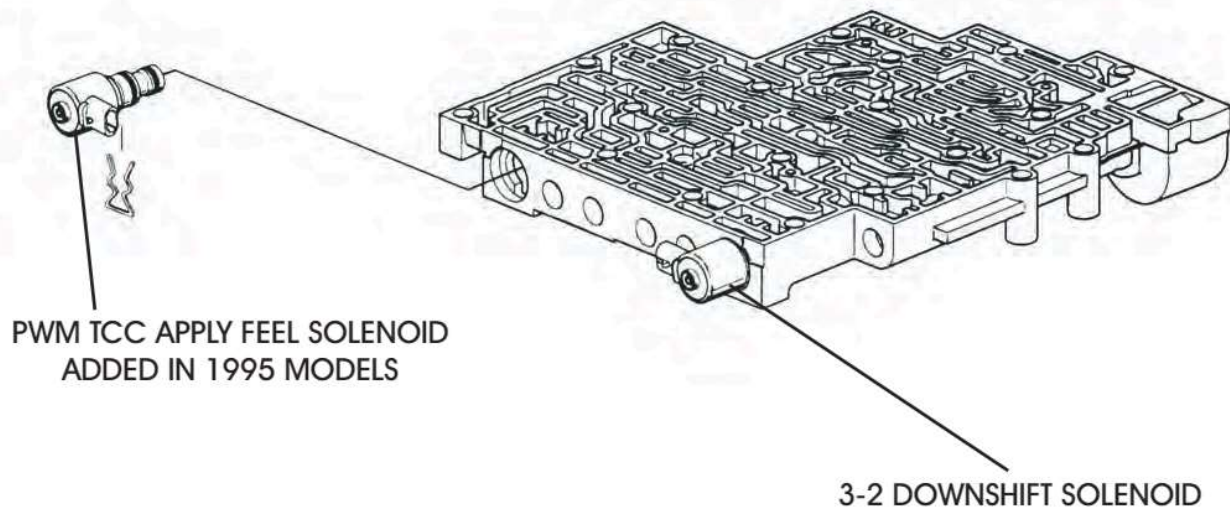

Figure 1
- (1) **VALVE BODY CASTING** - 1995 models are now machined to accept the added TCC PWM Solenoid, as shown in Figure 1. The added TCC PWM Solenoid is exactly the same and will interchange with the 3-2 downshift solenoid (See Figure 1).